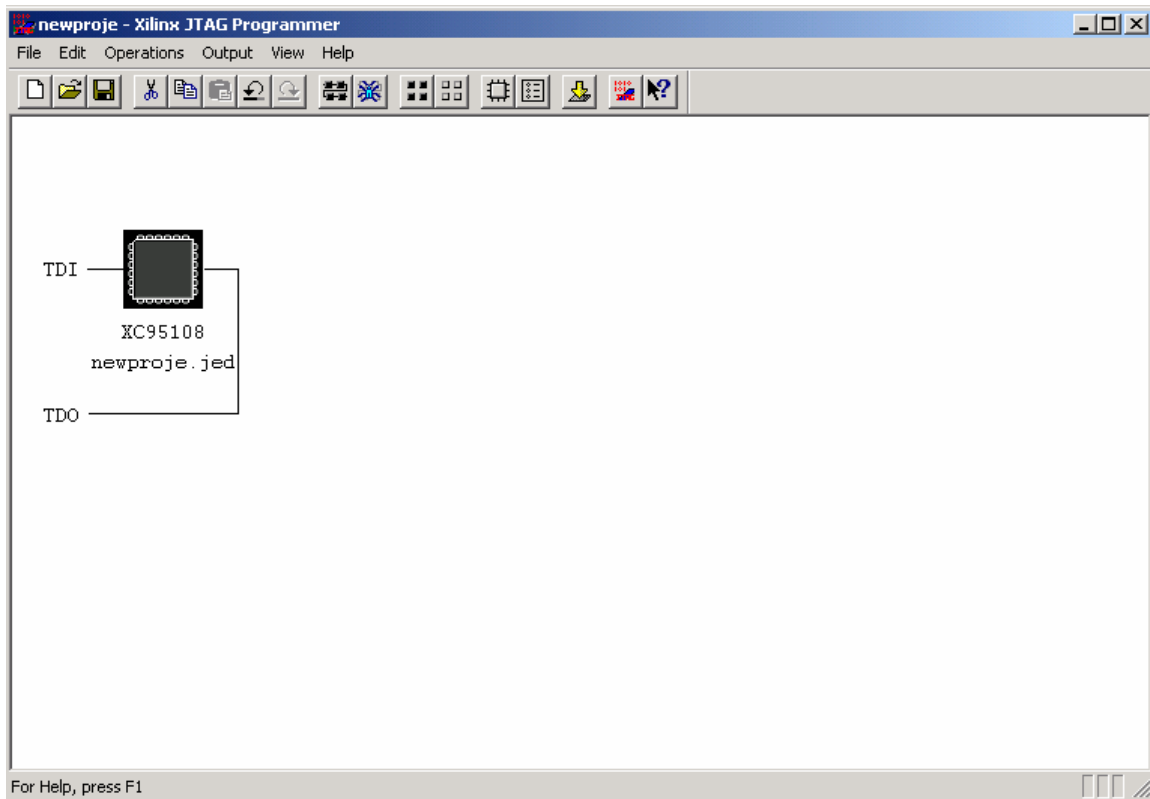

Figure 17 : JTAG Programmer window (snapshot from Xilinx ISE software)
- Click on the **Module View** in the **Sources in Project** window. Then, in the **Process View** window (left-bottom), double-click on the **Create Programming File** option. Once it is done successfully, click on the + mark on its left to get **Launch JTAG Programmer** option. Double-click on it. That brings up the **Xilinx JTAG Programmer** window as shown in Figure 17.